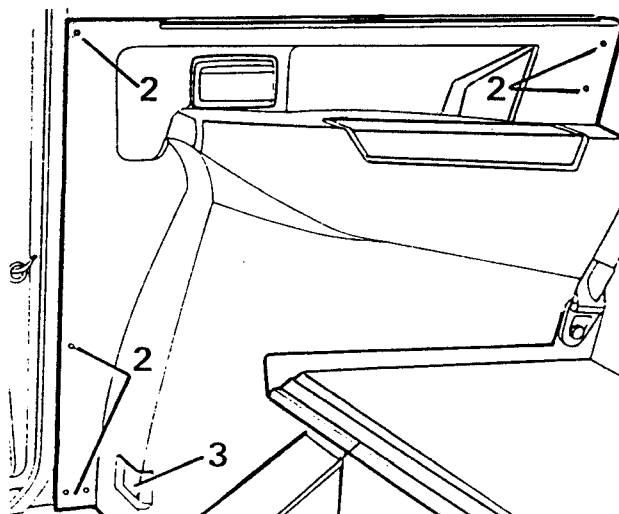

Figure 10
2. Remove six screws and ease out the rear quarter trim. See figure 10.